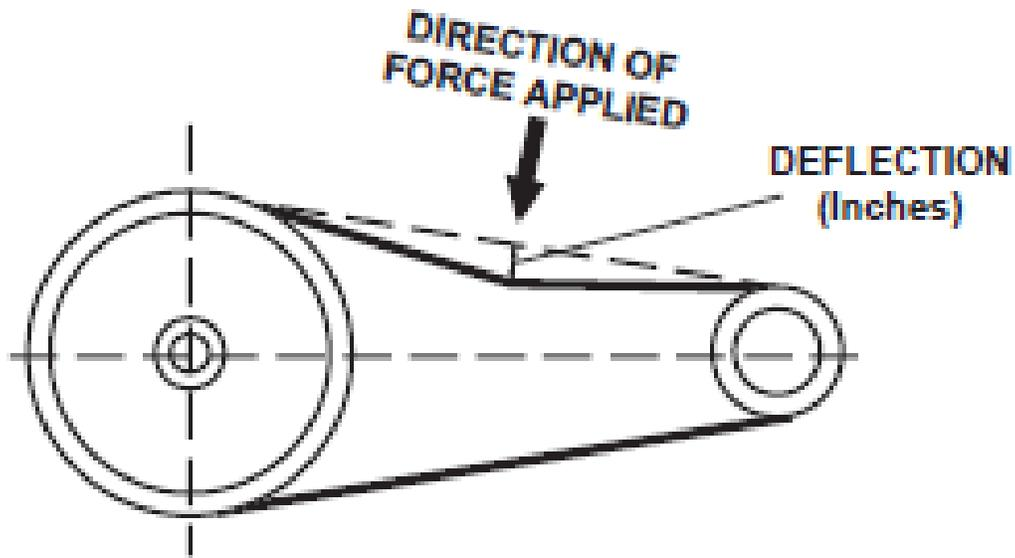

Figure 551-88L-3051\_01
(2) Action to take.
- (e) Adjust v-belt tension, (refer to Figure 551-88L-3051\_01).